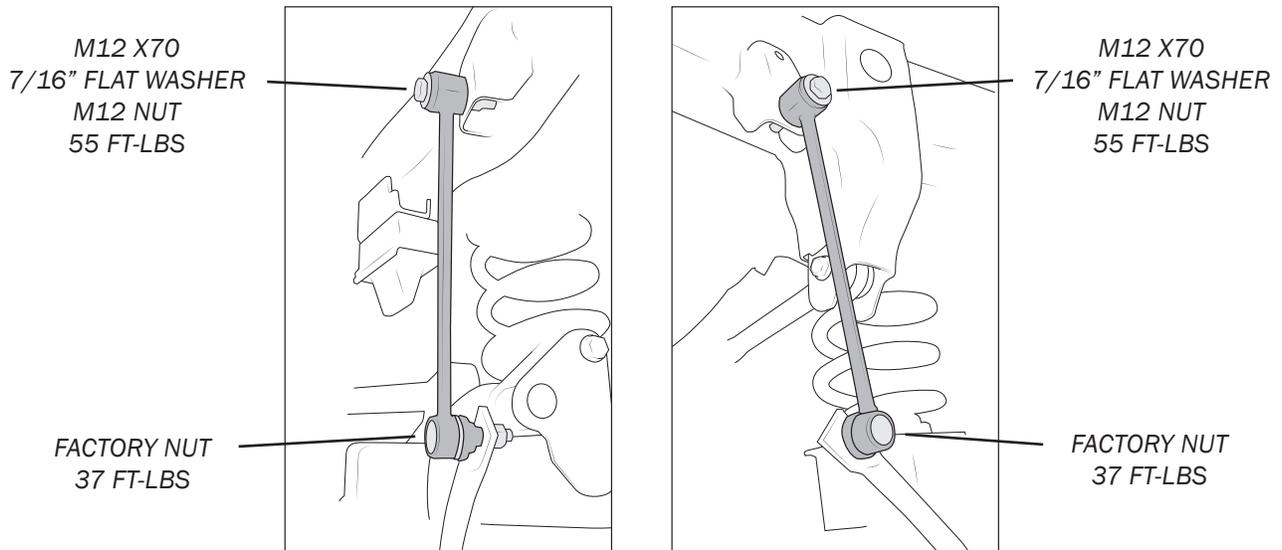

Figure 47
8. Install AEV sway bar links with the factory nut at the axle end and the supplied hardware at the frame Torque as specified (fig. 47).